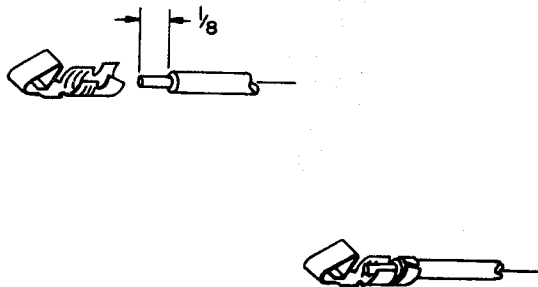

Figure 3-20. Terminal Pins Installation
1. Refer to figure 3-20 to attach one of the terminal pins (Bag 6) onto the end of the RED, YELLOW, GREEN, WHITE, and BLACK wires of the conductor cable. Do this by crimping the wire into place, then solder the end to the pin itself with a small amount of solder. In-